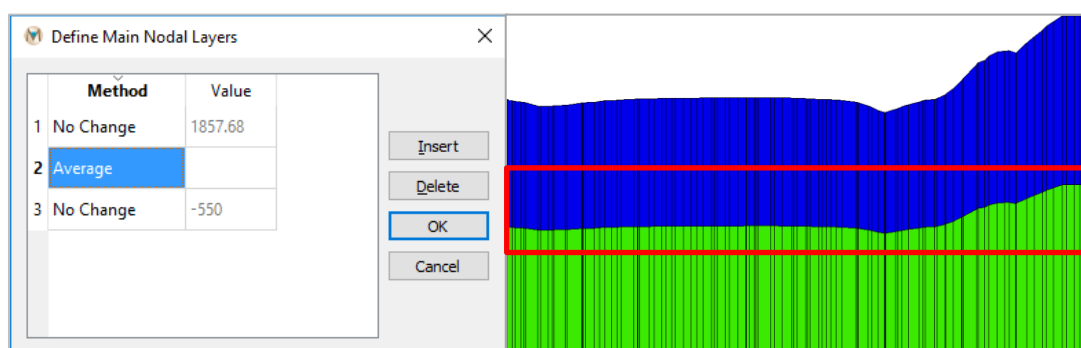

Figure 7.6. Layer definition using the “Average” method
- **Average:** To add a main layer with an average thickness (Figure 7.6), select a layer and click “Insert.” **MINEDW** will insert a nodal layer above the selected layer. Select “Average” from the “Method” drop-down box and click “OK.” **MINEDW** adds a new nodal layer (as shown within the red box) between the top and bottom nodal layers, forming two element layers. Node elevations for this layer are calculated as the average of the top nodal layer and the bottom nodal layer.